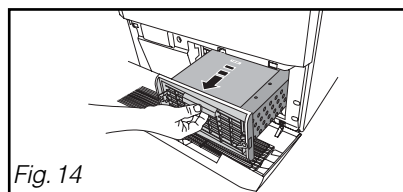

Fig. 14
- Remove it carefully (Fig.14).